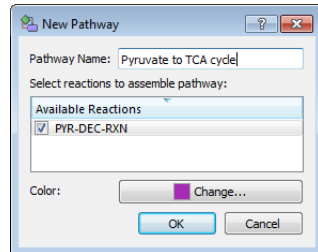

Figure 103 New Pathway dialog box
- b Type Pyruvate to TCA cycle for the **Name** in the **New Pathway** dialog box (Figure 103).